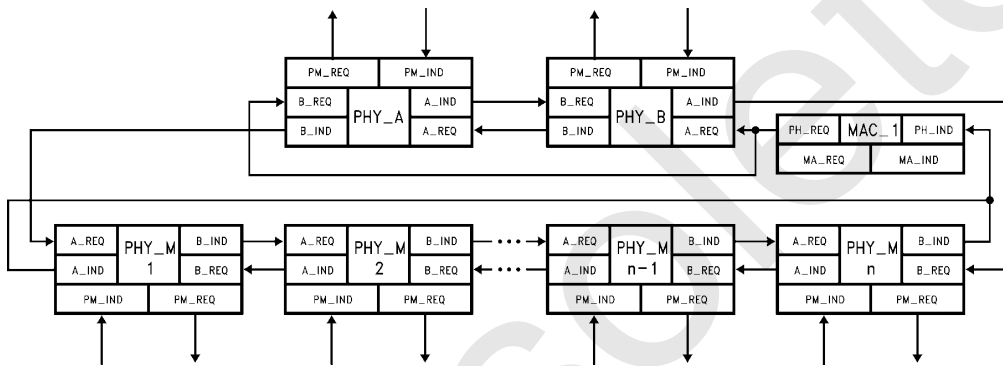

FIGURE 3-16. Dual Attach Concentrator (DAC), Single MAC
*Figure 3-16* shows a Dual Attach concentrator with a single MAC.